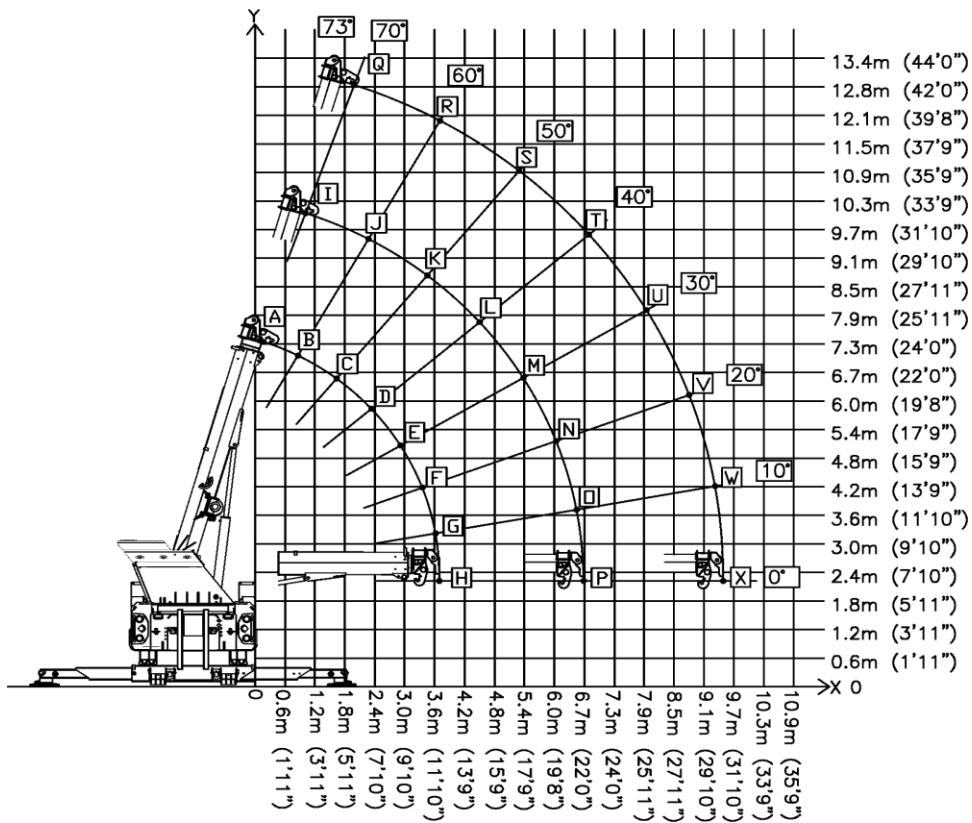

Figure 16 – Lifting Capacity of the 50/65 CSR from the Side
- Figure 16 – Lifting Capacity of the 50/65 CSR from the Side